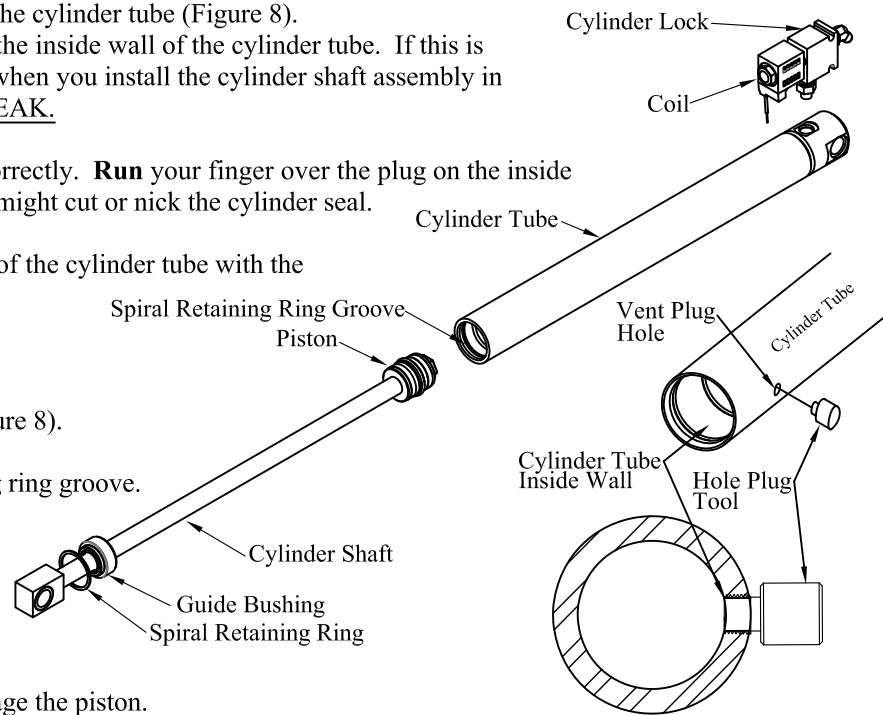

Figure 8: Cylinder assembly.
- 1. Install** the hole plug tool into the vent plug hole on the cylinder tube (Figure 8).
- 4. Install** the piston into the cylinder tube (Figure 8).
- 5. Install** the guide bushing into the cylinder tube (Figure 8).
- 7. Install** the cylinder lock on the cylinder (Figure 8).